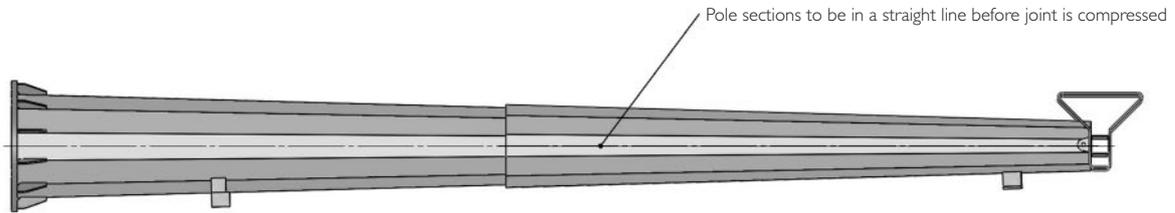
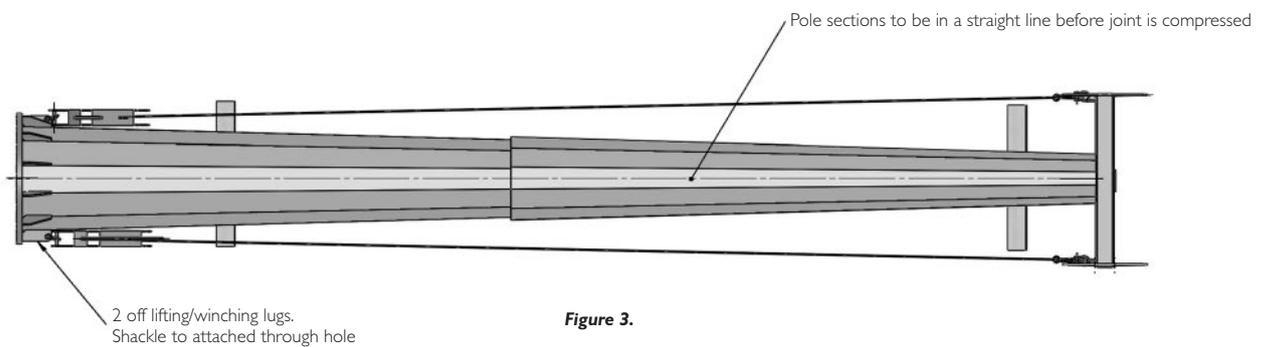

Figure 2.
Figure 3.
- 3.10 Pole sections must be aligned both horizontally, when viewed from the side (refer figure 2), and must also at the same time be in a straight line when viewed from the end of the section (refer figure 3).
- 3.12 Assemble two 3 tonne lift, 5 tonne pull hand winches (this may vary for larger transmission poles to 20 tonne total compression), one each side of the pole. Anchor the hand winches to the two lifting/winching base plate gussets provided (refer Figure 3). Position an SHS cross beam at the top end being joined and attach the wire rope to the lugs on the SHS cross beam.